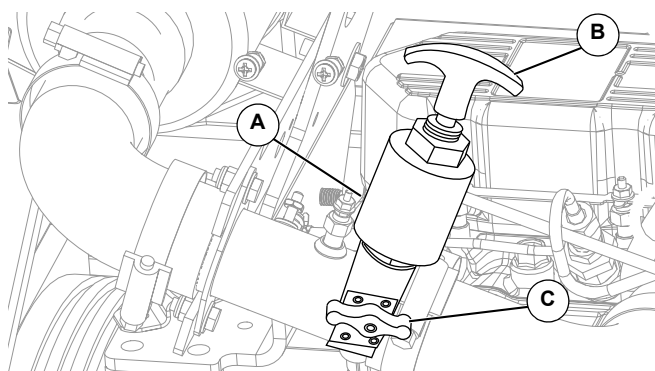

Figure 2-5. Positive Air Shutdown
See Figure 2-5. This unit may be equipped with a positive air shutdown (A) on the air intake. The PAS system automatically stops the engine if speed exceeds 2100 rpm. Engine overspeed can occur if the atmosphere contains elevated levels of combustible propane or natural gas.